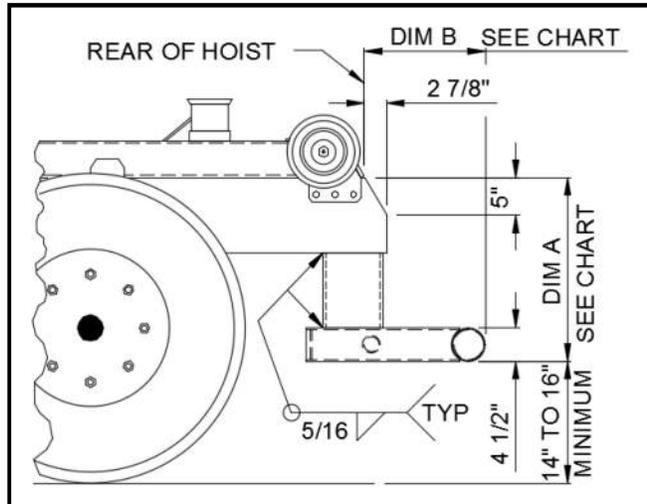
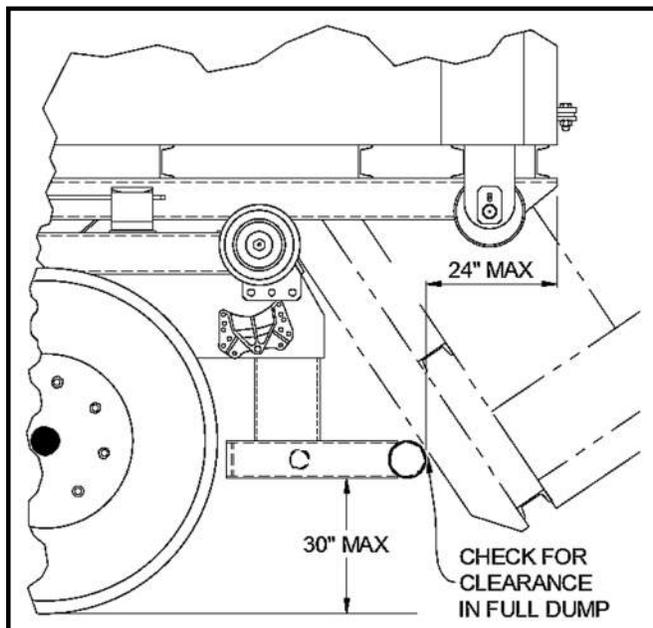

Figure 1
Figure 2
2. Trim truck frame to indicated dimensions (See Figure 1). These dimensions will facilitate the mounting of the rear light assembly if it is also being mounted.
3. Measure the distance from the top of the truck frame to the ground (NOTE: This should be performed on a level surface). Based on this measurement and the dimensions in Figure 1, the vertical channel [Part No. 63H94] may need to be modified in length to meet the Office of Motor Carrier Safety (OMCS) regulations. Regulation 393.86 requires that no bumper be located more than 30" off the ground when the truck is empty, and the end of the bumper should not be located more than 24" from the extreme rear of the vehicle, including truck bodies (See Figure 2). Once the length has been determined for the vertical channels, weld them to the bottom of the truck frame (See additional notes on next page).
4. Center the bumper weldment [Part No. 52H12] on the vertical channels [Part No. 63H94]. Position rear of bumper from rear of the hoist as indicated by the bumper location chart. This is crucial in order to ensure that the container longills do not contact the bumper during the dump cycle (See Figure 1 & 2).
5. Weld the bumper weldment to the vertical channels (See Figure 1 & 3).